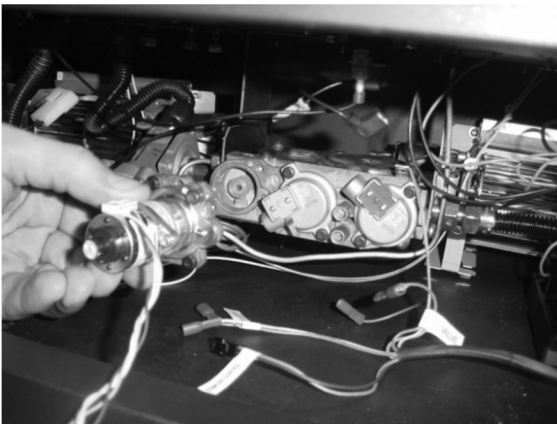

Figure 1
- (b) Remove and discard the Natural Gas (NG) orifice. Place the LP orifice in the pilot assembly then replace the pilot hood, tightening the pilot hood until it is snug (do not over-tighten).
8. Remove the control panel to access the gas control panel. The stepper motor (adjustable regulator) has an installation sheet included with it – make sure to follow all of the directions. Place the stepper motor on the gas control valve (see Figure 1) – **MAKE SURE IT IS CORRECTLY ORIENTED**. Secure using the screws included with the motor (see Figure 2) – tighten to 25 Lb-inches. Leak test this area after installation to verify proper installation.